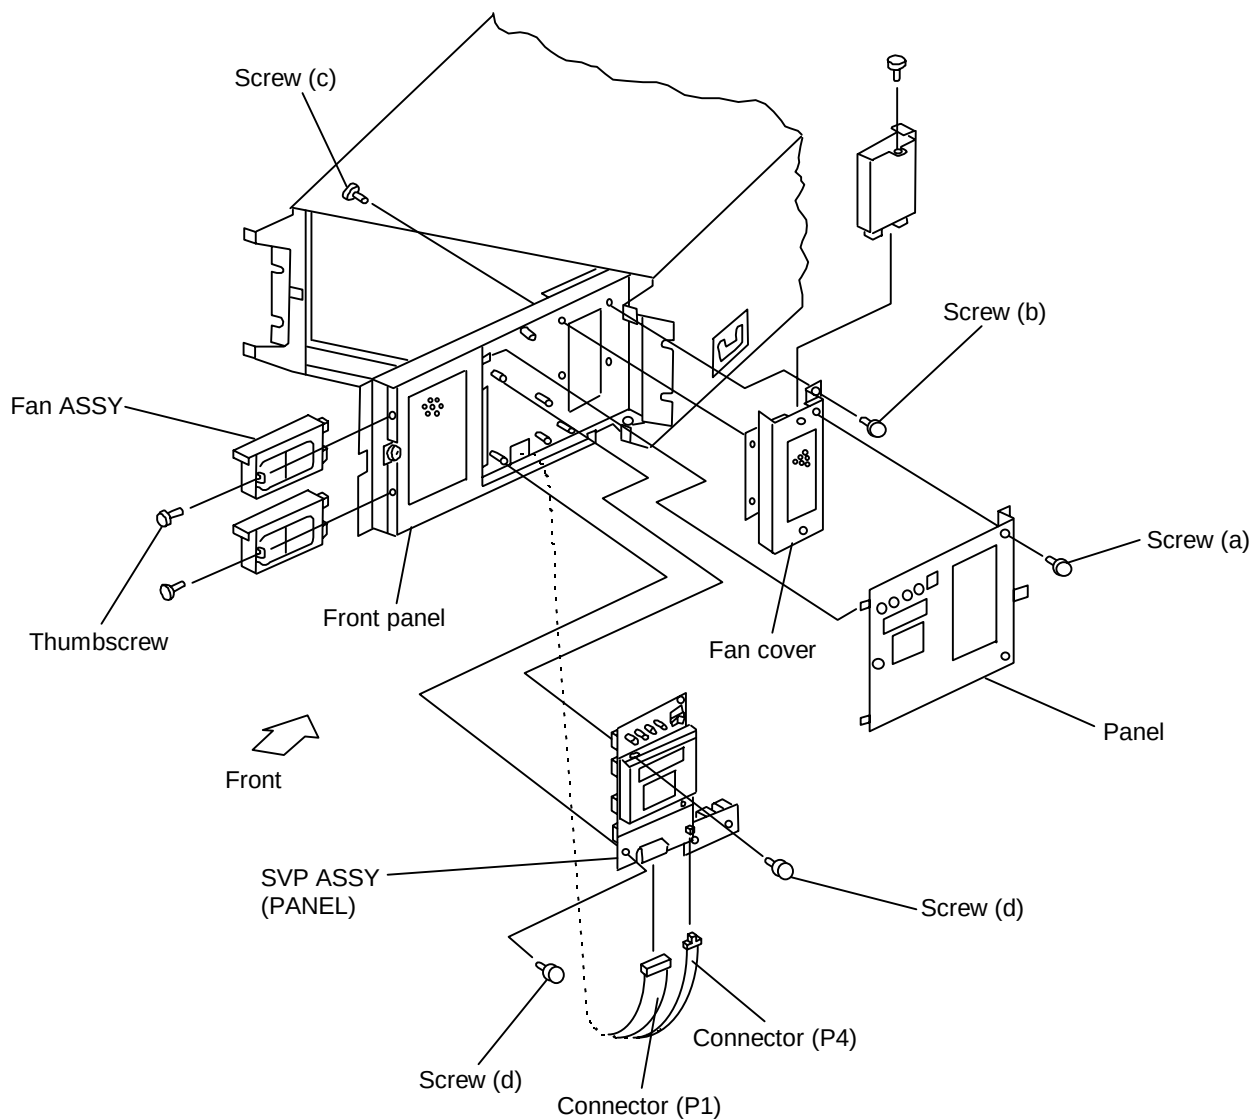

Figure 10.1 Replacing SVP ASSY (PANEL)
10. Replacing SVP ASSY (See Figures 10.1 and 10.2.)